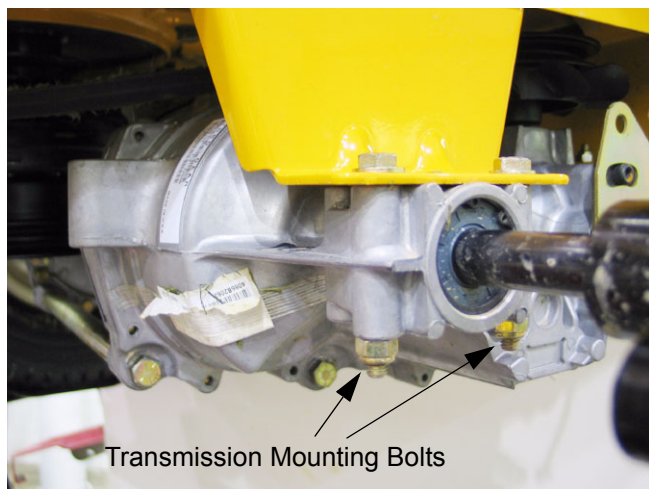

Figure 6.12
- 6.12. Remove both transmission mounting bolts securing the transmission to the mounting bracket using two 1/2" wrenches. See Figure 6.12.